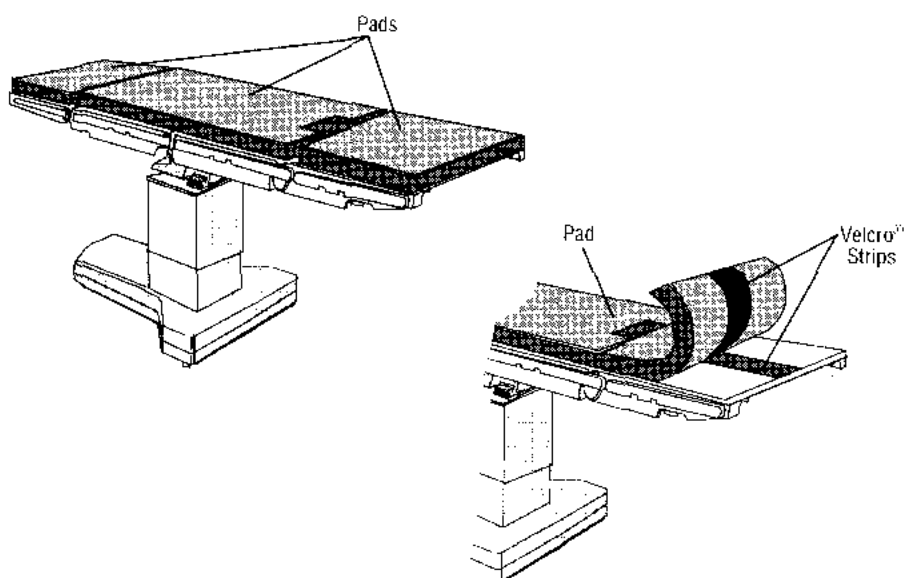

Figure 6-1. Remove Pads for Cleaning
- b. Remove tabletop pads by pulling upward to free them from the Velcro fasteners (see Figure 6-1) and place on another table or other flat surface.